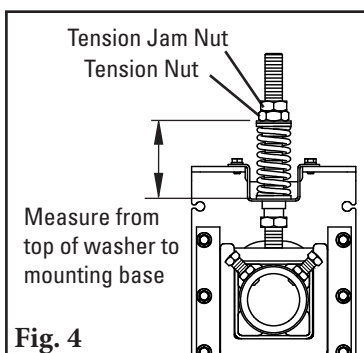

Fig. 4
4. **Set the blade tension.** Loosen the top tension jam nuts on both sides. Turn the tension nuts until the correct spring compression is reached (Fig. 4). Spring compression is determined by spring length. See the chart at right for the correct spring length for your belt width.